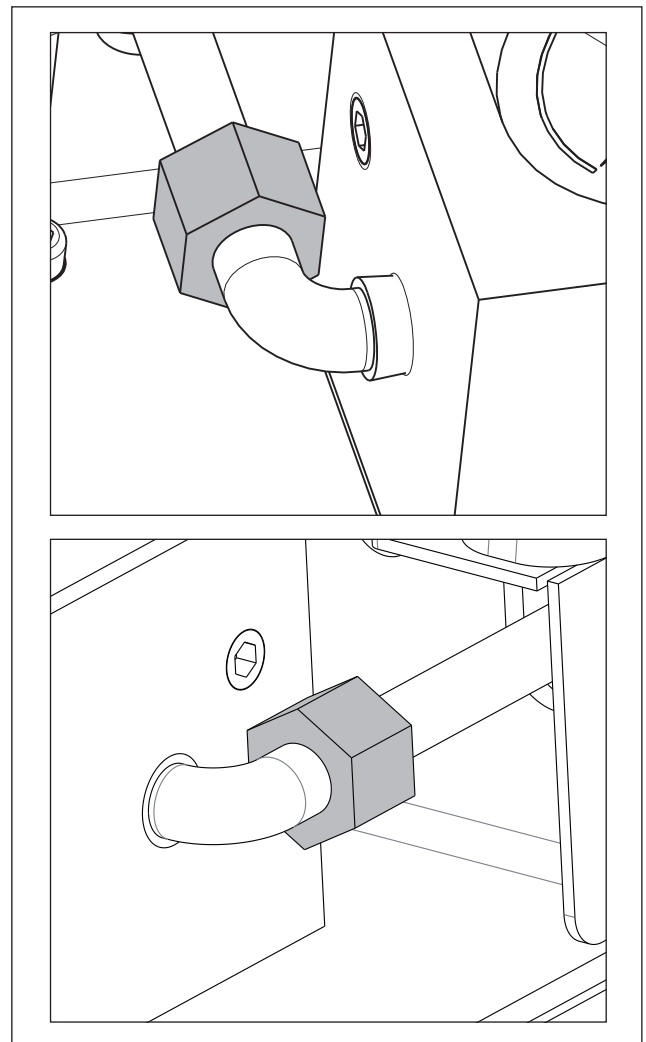

Figure 14 - Connectors
4. Check that the pump hydraulic pressure gauge indicates zero (0) psi/bar. Hydraulic pressure must be completely relieved before loosening hydraulic fittings in the following step.
5. Loosen the connectors located on each end of the hydraulic manifold. Refer to Figure 14.